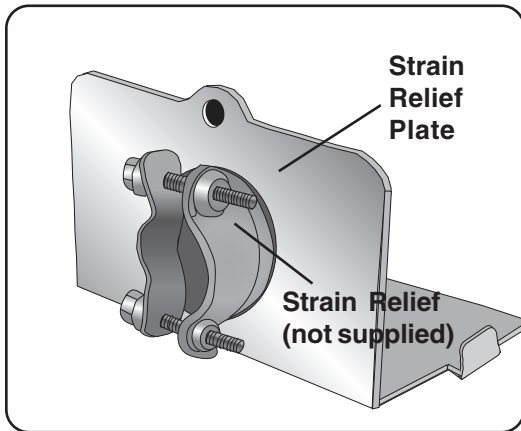

Figure 24
1. Retrieve the strain relief plate, and install a strain relief (not supplied) into the opening on the strain relief plate. **NOTE:** Orient the strain relief as shown in Figure 24.